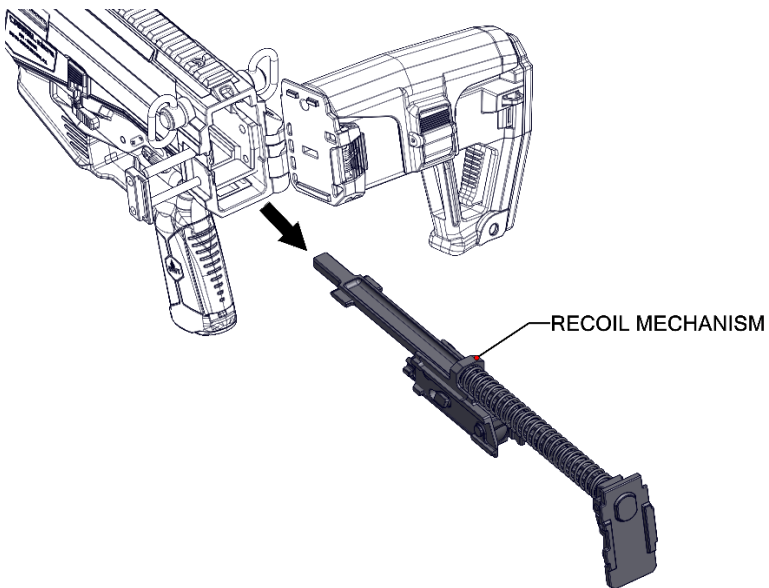

Figure 10-4 – Extracting the Recoil Mechanism
6. Pull back the Charging Handle to extract the Recoil Mechanism (Figure 10-4).